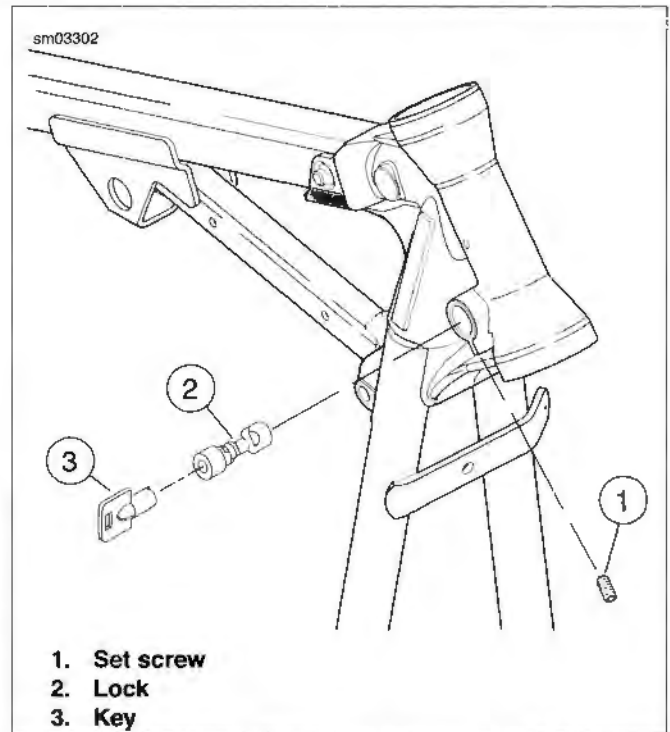

Figure 2-122. Fork Lock Installation
2. See Figure 2-122. Remove set screw (1).
3. Insert key (3) in lock (2) and turn partially.
4. See Figure 2-122. Apply LOCTITE THREADLOCKER 243 (blue) to set screw (1) and install.
5. Insert key in the lock and tighten set screw (1) until lock begins to bind; then back set screw out 1/2 turn.